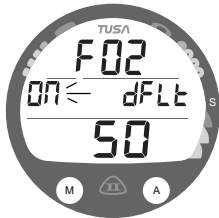

Fig. 17 - SET FO2 DEFAULT
**Set FO2 50% Default**, information includes (Fig. 17):